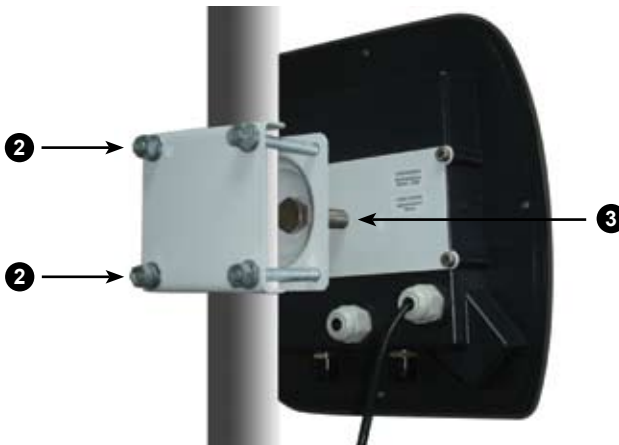

Figure 4-1 Tower or Pole Mounting
2. Position the assembly as shown in Figure 4-1 and attach the mounting plate to the tower or pole using the 4 supplied M8x75 mm SS bolts, which fit 0.5 to 2.0 inch poles. Use the two sets of washers between the bracket and the nut/bolt head (see Figure 4-1).